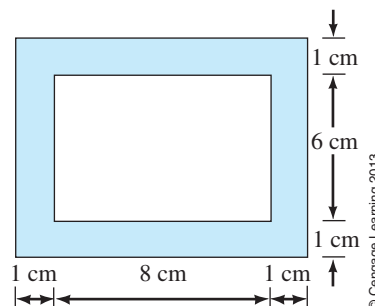

FIGURE 12-23
6. For the circuit of Figure 12-23, the length ℓ to use in Ampere's law is ____ [0.36 m, 0.32 m, 0.28 m]. Why?